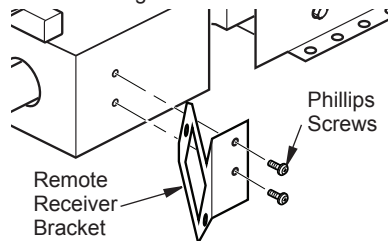

Figure 18 - Installing Remote Receiver Bracket
6. Install receiver bracket to base with Phillips screws provided in hardware kit as shown in Figure 18.